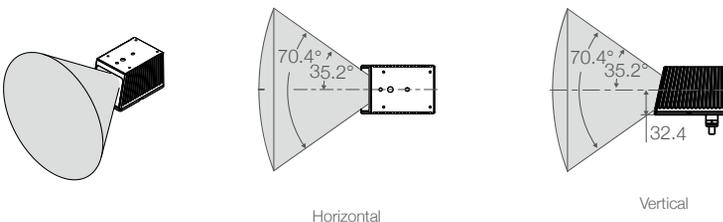

Figure 3.1.1 Effective FOV of the Mid-70
3. When mounting the Mid-70, the field of view must not be blocked by an object, including glass. Refer to Figure 3.1.1.